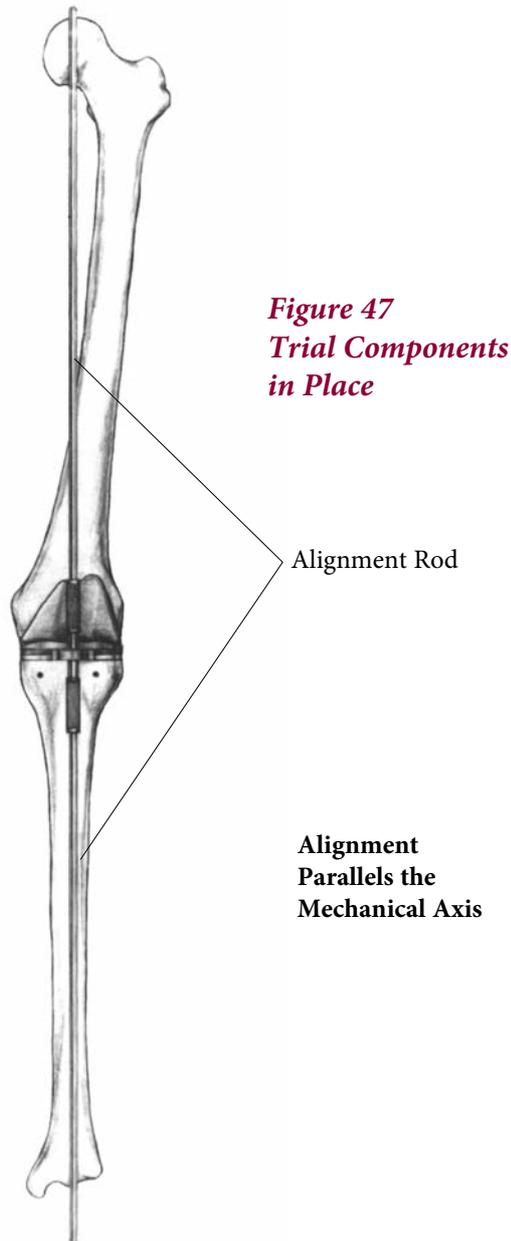

Figure 47
- ▶ Overall leg alignment may be assessed at this time. Re-attach the Alignment Handle to the trial baseplate and insert two Alignment Rods into the handle. The rods should parallel the mechanical axis of the leg in both the coronal (A/P) and sagittal (M/L) views (**Figure 47**).